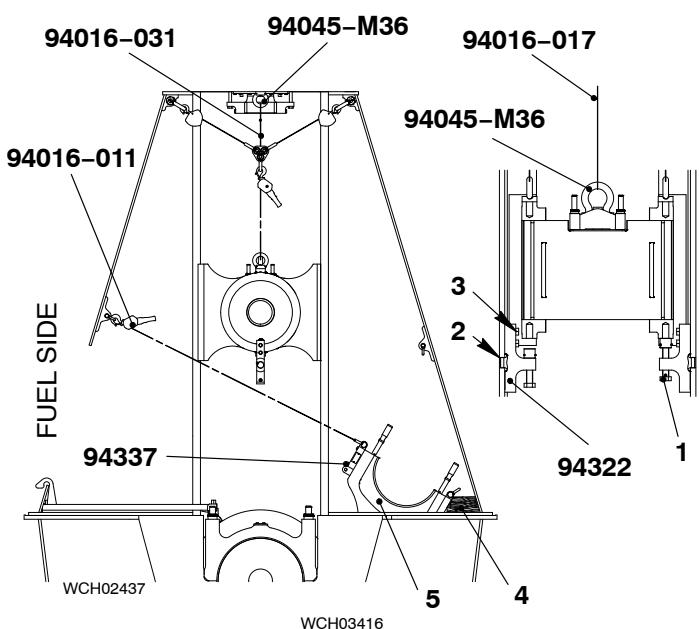

Fig. 13
- 20) Make sure that there is no clearance between the holding plates (1) and crosshead pin (3).
- 21) Operate the manual ratchet (94016-017, Fig. 13) to lift the crosshead approximately 160 mm above the center of the pin hole (2).